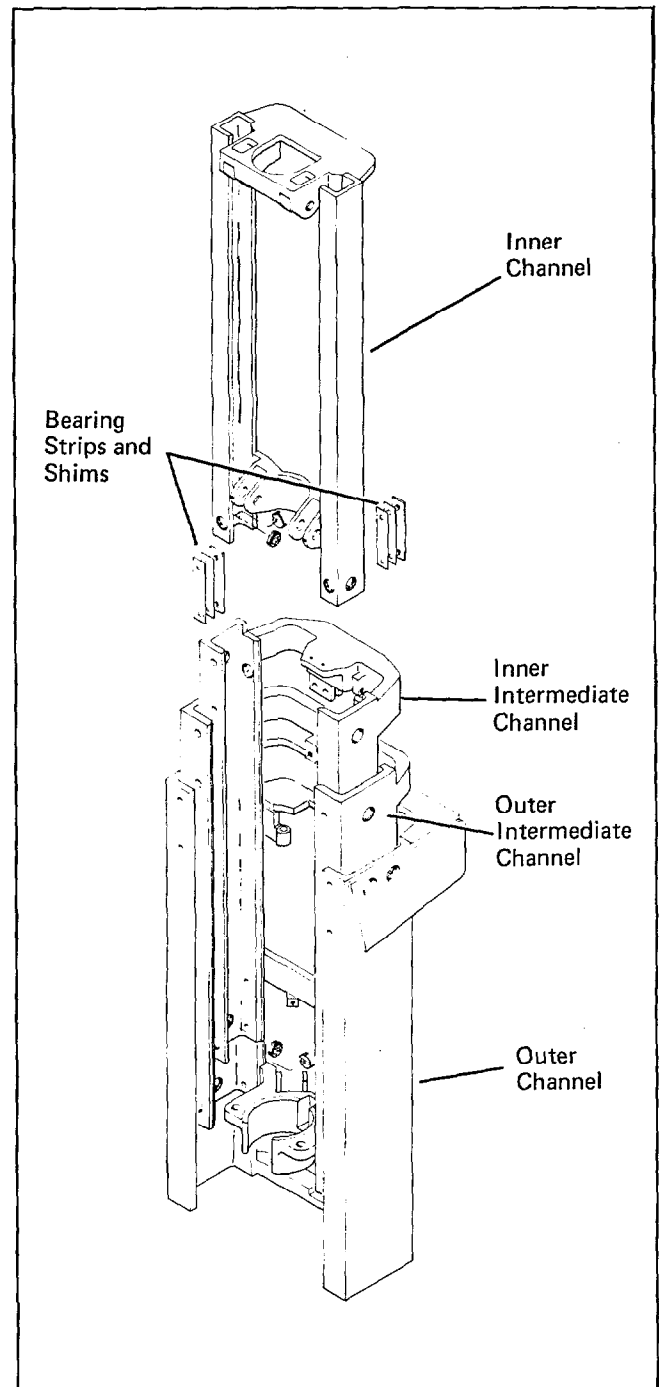

Figure 4-27 Channel Assembly
11. Install the inner channel in the inner intermediate channel as follows (see figure 4-27):